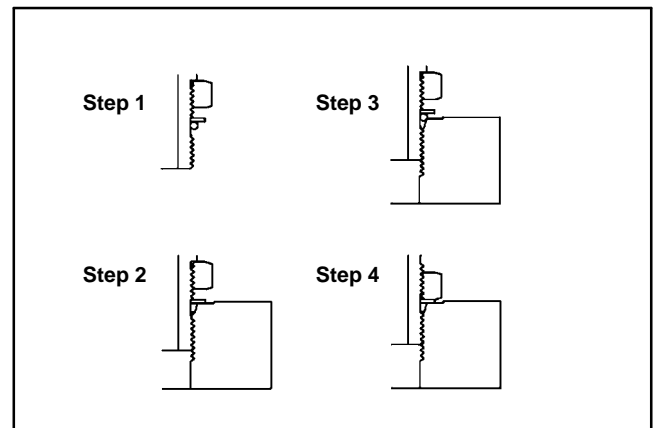

Figure 9
4. Turn back the lock nut as far as possible. Make sure the back up washer is not loose and is pushed up as far as possible (Step 1 in Figure 9).